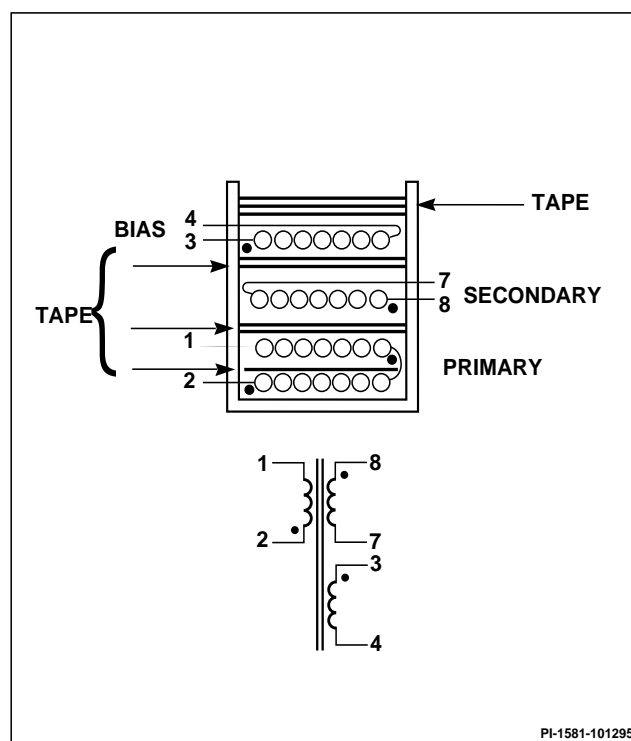

Figure 2. T1 Transformer Construction and Schematic.
- 1) Wind 126 turns #37AWG magnet wire, wind two layers (63 turns/layer) starting on pin 2, finishing on Pin 1. One layer of tape between winding layers to insulate winding layers and reduce capacitance as shown in figure 2.